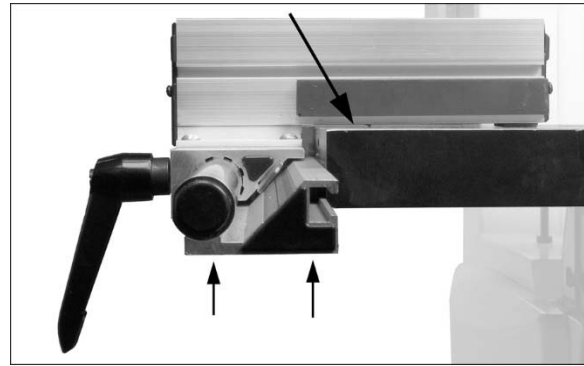

Figure 5-8
2. Slide fence body onto end of guide rail (Figure 5-8). Push up guide rail until gap between fence body and table is even, then snug guide rail nuts a little more. *Do not fully tighten yet.*